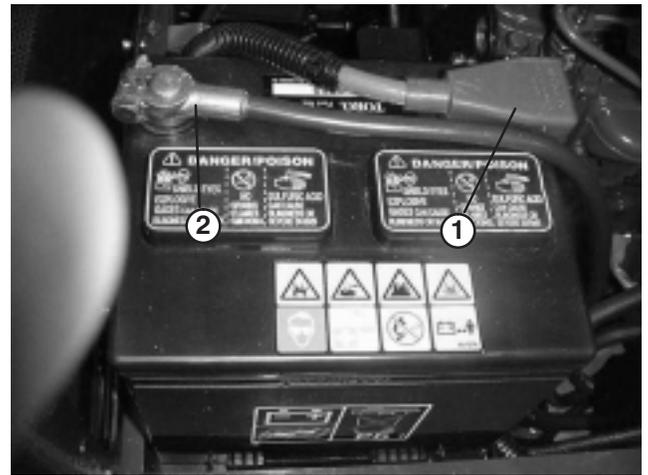

**Figure 9**
1. Remove manual tube and R-clamps secured to seat plate. Retain (2) mounting capscrews and flatwashers.
2. Loosely mount R-clamps to outer holes in right side of seat with (2) capscrews and flatwashers previously removed. (Fig. 9).
3. Install manual tube into R-clamps, insert manual into tube and thread cap into tube (Fig. 9). Tighten capscrews.